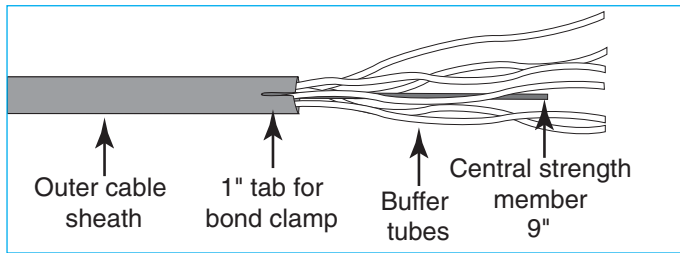

Figure 1.
7.1.2 Cut central member 9" from the ring cut. (Figure 1)